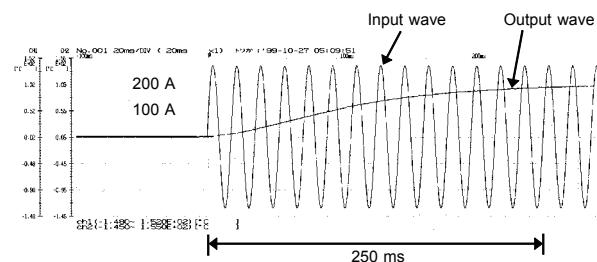

Fig. 2 Waveform of Output Response (Rise)
- **REC** outputs are analog outputs. The output response time during a f.s. input differs between rise (0% to 90%, about 250 ms) and fall (100% to 10%, about 500 ms). (Figs 2 and 3) As the measured value is small to the range response time becomes long.